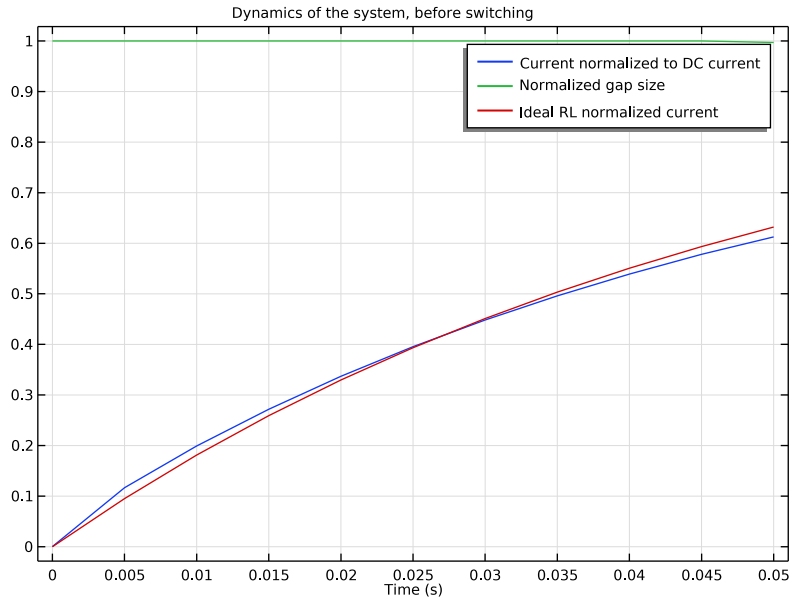
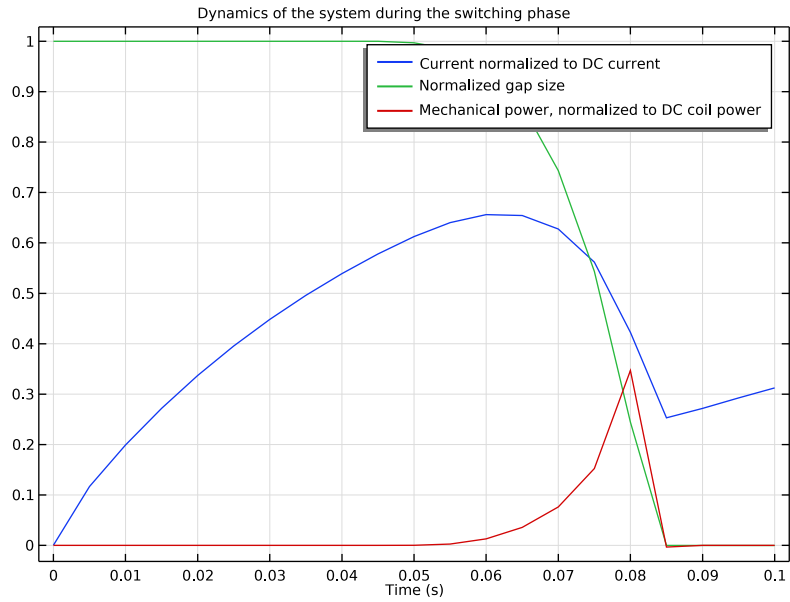
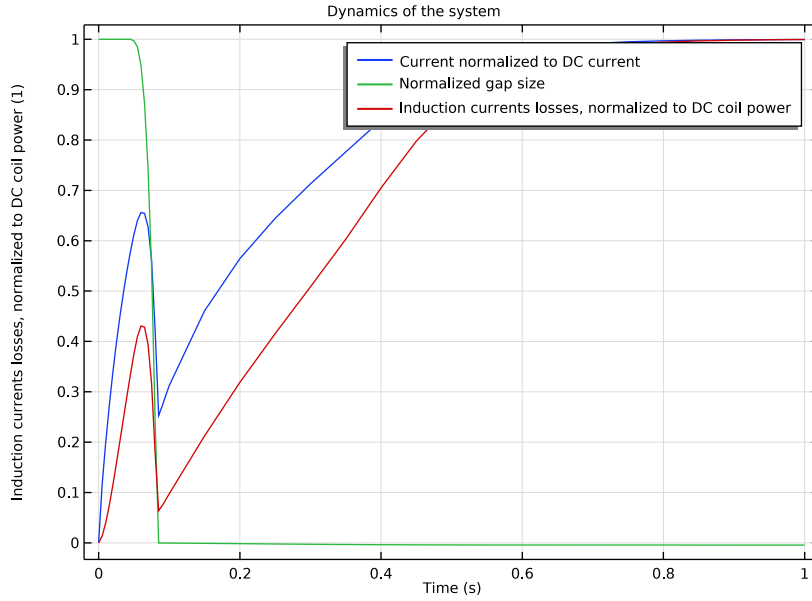
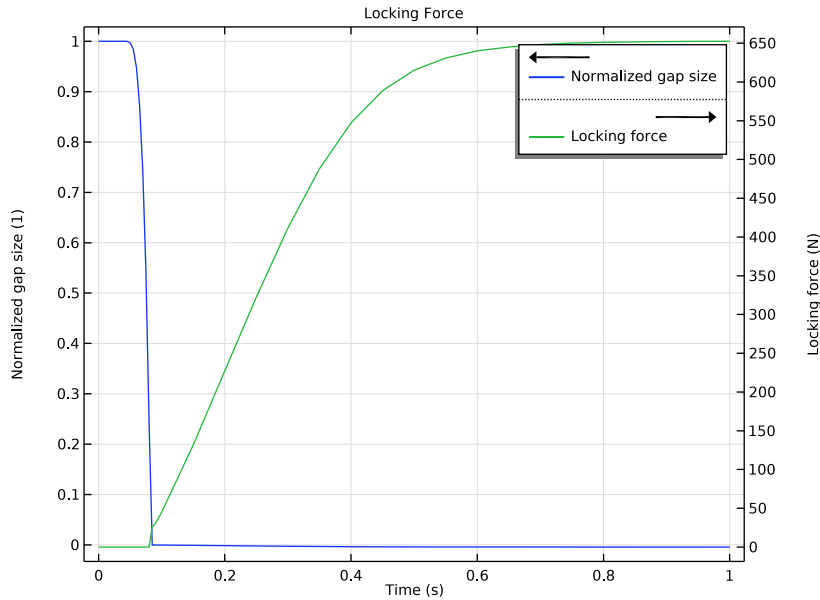

Figure 7: Magnetic flux density norm at $t = 0.1$ s, when the gap is closed.
Figure 8: Magnetic flux density norm at $t = 0.1$ s, when the gap is closed.
Figure 9: Magnetic flux density norm at $t = 0.1$ s, when the gap is closed.
Figure 10: Variation of locking force and gap with time.
- *Before plunger motion:* Figure 7 shows the first stage of the simulation, when the spring is not yet compressed. Blue and green lines represent normalized currents and gap size respectively. Red line is an exponential fit for the RL current dynamics of the initially non-moving inductor — the response of an ideal system.
- *During plunger motion:* the compression of the spring and the resulting closure of the gap are visualized in Figure 8. Normalized currents and gap size are represented by blue and green lines respectively, the red line showing instead the mechanical power (which is nonzero only during the motion of the plunger).
- *After plunger motion:* Figure 9 refers to the last stage of simulation, when the spring is completely compressed. The red line shows the induction losses in the core, which are significant during the movement of the plunger. Depending on the details of the device and the desired performance, this aspect may need to be taken into account during the
It is worth recalling that blue and green curves in Figure 7, Figure 8, and Figure 9 are representing the same physical quantities, respectively the normalized current and the normalized gap size. The reason why they look different is the limit of the x axis (time scale). Figure 10 shows the variation of locking force with time.